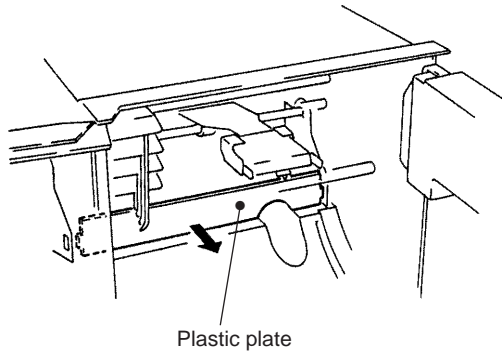

Figure 11.7 Plastic Plate
- 1 Remove the plastic plate at the plotter carriage shaft (see figure 11.7).